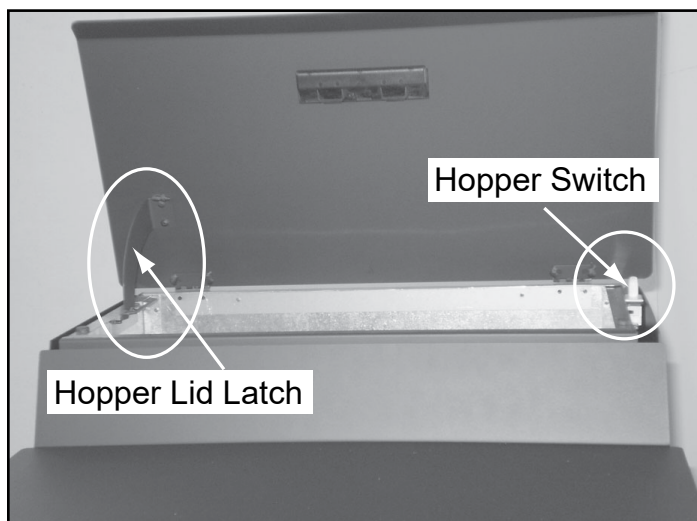

Figure 11.1
2. The hopper switch is designed to shut down the feed motor when the hopper lid is open. Leaving the lid open too long can cause the fire to go out (**Figure 11.1**).